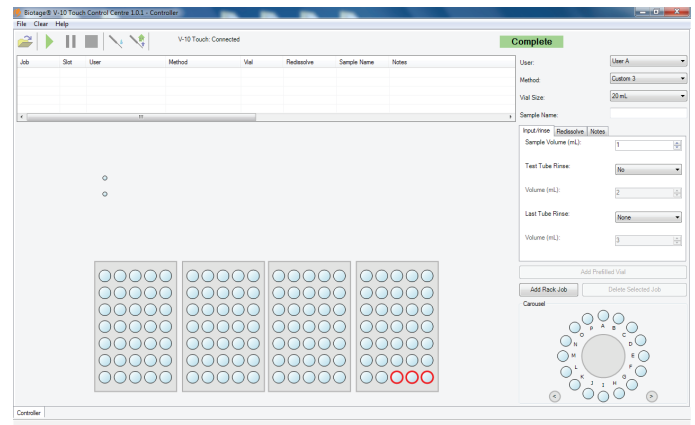

Figure 23. The Controller application when setting up a rack job. Selected source tubes are highlighted in red.
- c. In the software, select the test tubes that contain the sample solution for the job. A selected source tube is highlighted in red; see Figure 23.